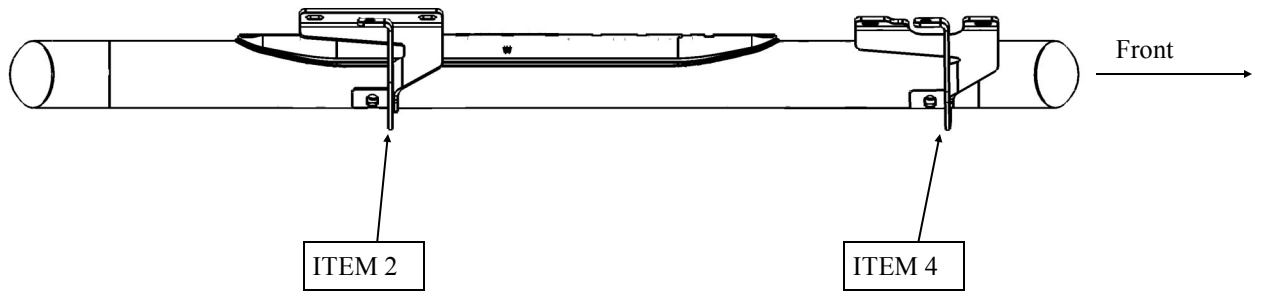

Figure 4
5. See **Figure 4** for visual bracket orientation.